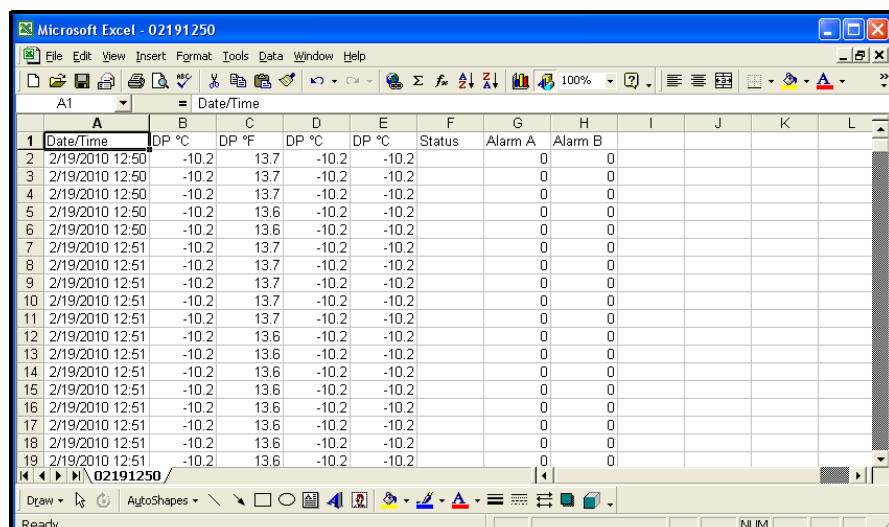

Figure 65: Successful Excel Import
9. When the setup is complete, click on Finish, and a screen similar to Figure 65 on page 106 appears.